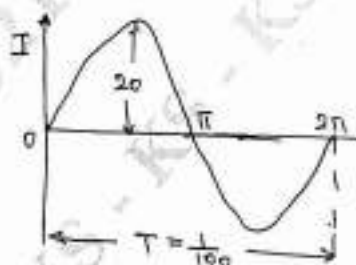

Fig.Q2(c)
- c. For the current waveform shown in Fig.Q2(c). Find : i) Peak current ii) Average value iii) Periodic time iv) Frequency v) Instantaneous Value at  $t = 3\text{ms}$ .